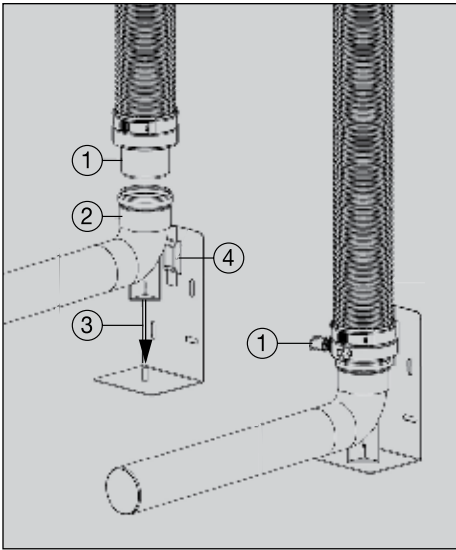

Figure 8,
11. After installing the required length of liner, remove the mounting aid by rotating $\frac{1}{4}$ turn counter clockwise (-). Then attach the rigid-flex adapter into the support bend (see 1 and 2, **Figure 8**).
11a. Position the support elbow on the support bracket (see 2 and 3, **Figure 8**)
11b. Secure the support elbow with the clamp (see 1, **Figure 9**) around the adaptor flex-rigid (see 1, **Figure 8**) and through the slot of the support console (see 4, **Figure 8**).